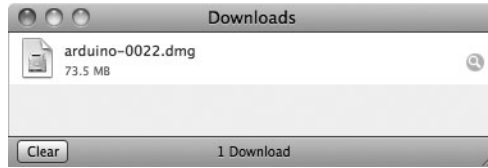

Figure 1-8: File download is complete.
2. Click the **Mac OS X** link. The file will start downloading, and it will appear in the Downloads window shown in Figure 1-8.